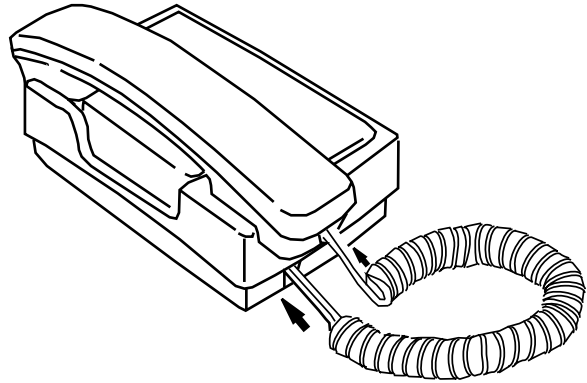

Fig. C.3.2
- (1) After having taken out the telephone set, telephone handset and curled cord from the carton box, connect them(Fig. C.3.2).